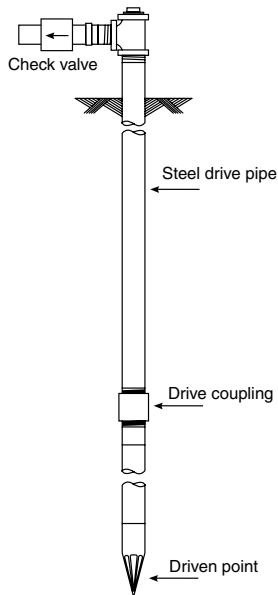

Figure 6 – Driven Point Installation
1. Connect the suction pipe to the drive point as illustrated in Figure 6. Keep horizontal pipe run as short as possible. Use PTFE pipe thread sealant tape on male pipe threads. Multiple well points may be necessary to provide sufficient water to pump.
2. To aid priming on well point installations, install a line check valve as shown in Figure 6. Be sure check valve flow arrow points toward pump.
NOTICE: For long horizontal pipe runs, install a priming tee between check valve and well head as shown in Figure 6. For driven point installations, install a check valve as shown in Figure 6. Be sure check valve flow arrow points toward pump.